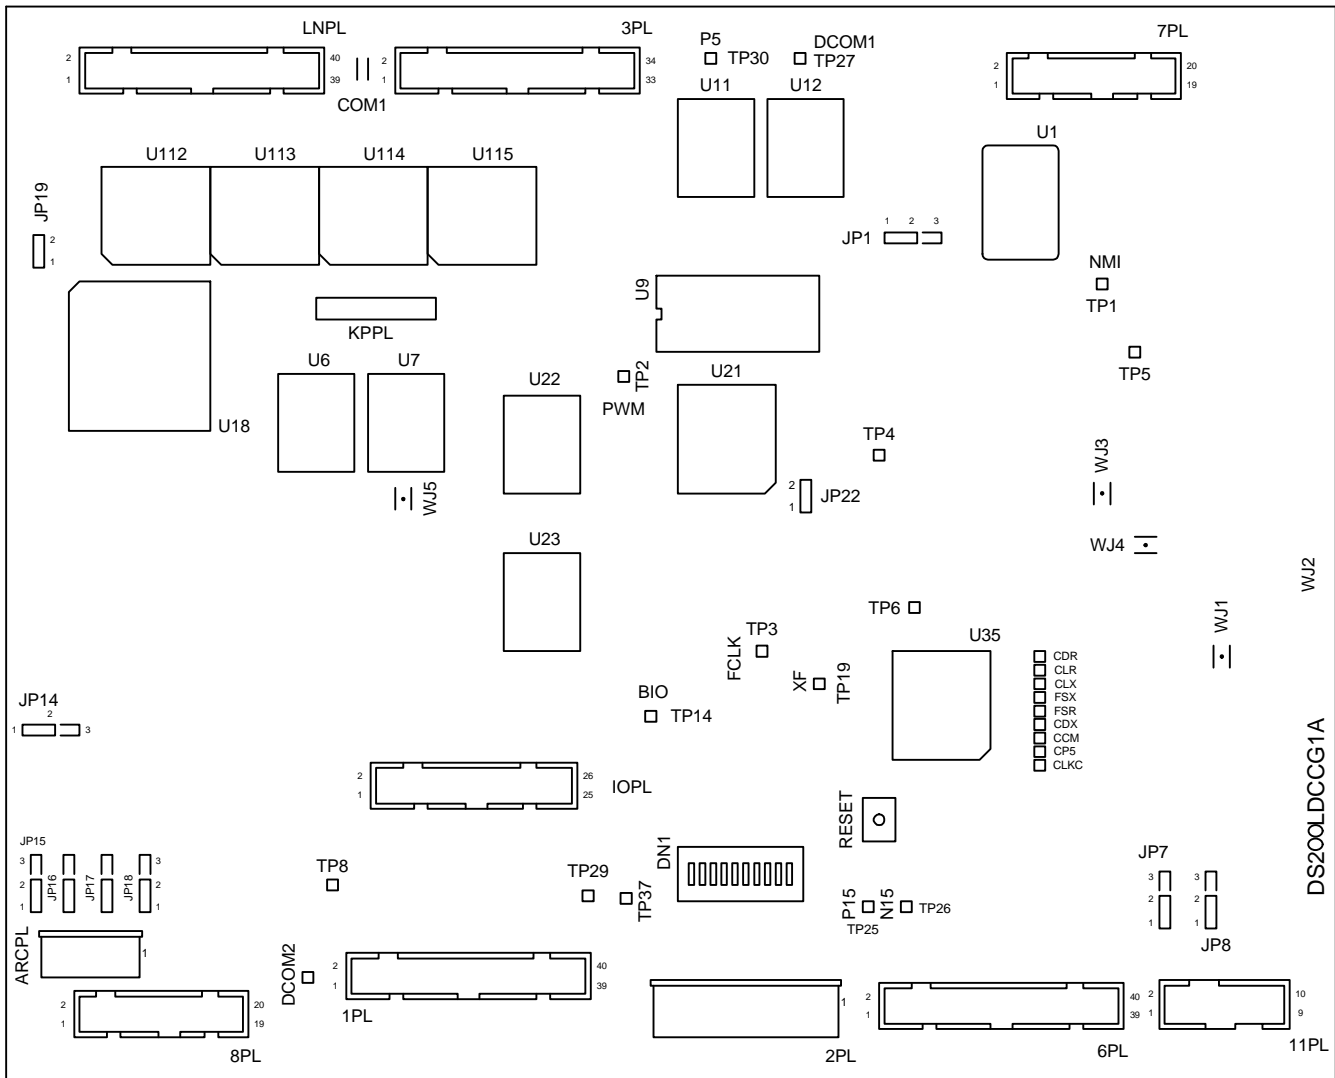

Figure 1. LDCC Board Layout Drawing
- By pressing the RESET pushbutton (see Figure 1)
The LDCC includes a stab connection, COM1 (see Figure 1) for use in high noise environments when the common reference to the LAN interface boards needs stiffening. Most applications do not require this stab connection because the connections in the LNPL ribbon cable (see Table 13) provide an adequate tie.
Figure 1 shows and identifies the LDCC testpoints. Table 1 defines the testpoints that may be useful to drive maintenance and troubleshooting.
Figure 1 shows the locations of these jumpers and Table 2 lists and defines them.
The LDCC connects to power, customer I/O, and the LAN through 10 onboard cable connectors, shown in Figure 1. Tables 3 through 13 define the I/O connector pin assignments, as follows: